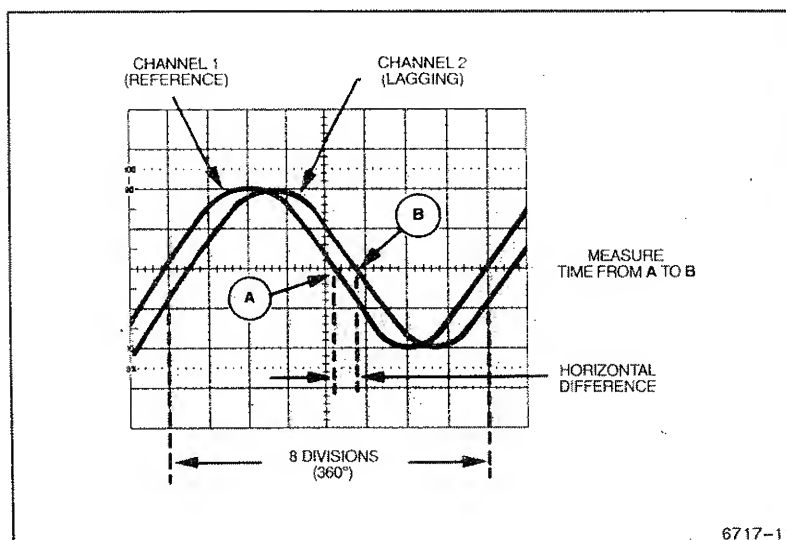
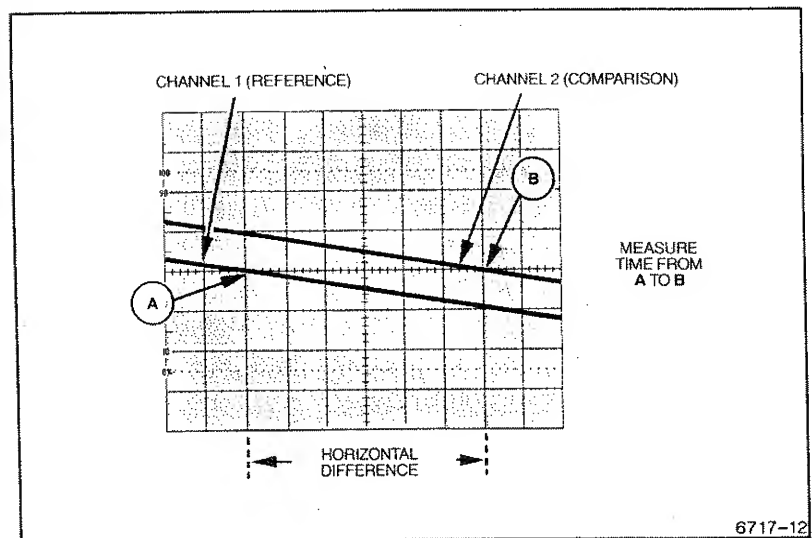

Figure 3-8. Phase difference.
Figure 3-9. High-resolution phase difference.
9. Position the displays and adjust the SEC/DIV Variable (CAL) control so that one cycle of the reference signal occupies exactly eight horizontal graticule divisions at the 50% rise-time points (see Figure 3-8). Each horizontal division of the graticule now represents  $45^\circ$  of the cycle ( $360^\circ$  divided by 8 divisions), and the horizontal graticule calibration can be stated as  $45^\circ$  per division.
**EXAMPLE.** In Figure 3-8, the horizontal difference is 0.6 division with a graticule calibration of  $45^\circ$  per division.
With the sweep speed increased 10 times (MAG set to X10), the magnified horizontal graticule calibration will be  $4.5^\circ$  per division ( $45^\circ/\text{division}$  divided by 10). Figure 3-9 shows the same signals illustrated in Figure 3-8, but horizontally magnified by a factor of 10.
**EXAMPLE.** In Figure 3-9, the 10X magnified display results in a horizontal difference of six divisions between the two signals.